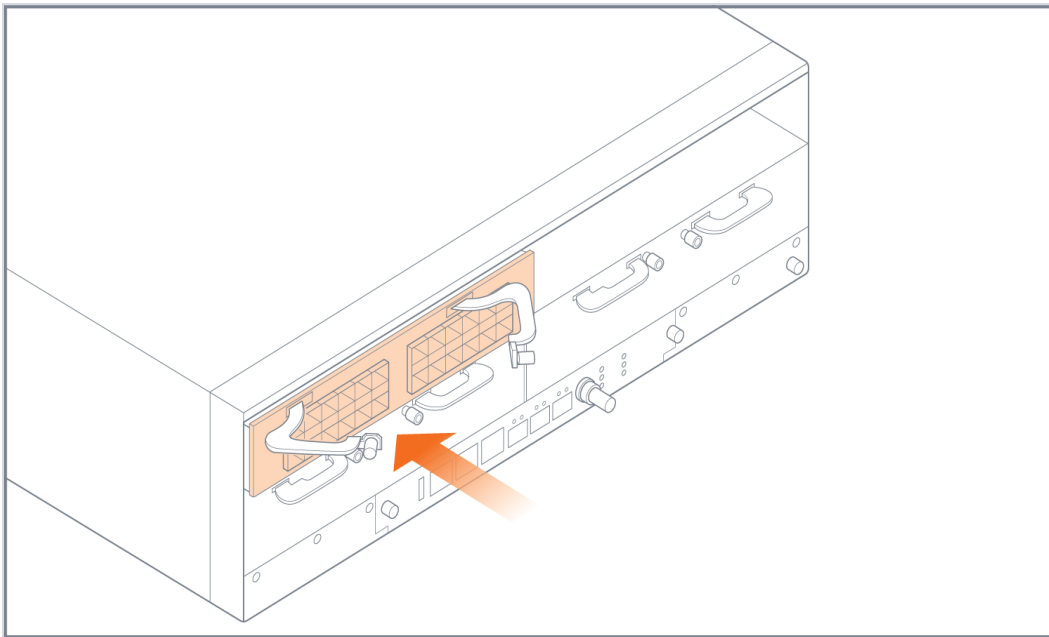

Figure 12: Module Insertion
2. Carefully slide the module into the bay until it mates with the mid-plane as shown in Figure 12: Module Insertion on page 67.